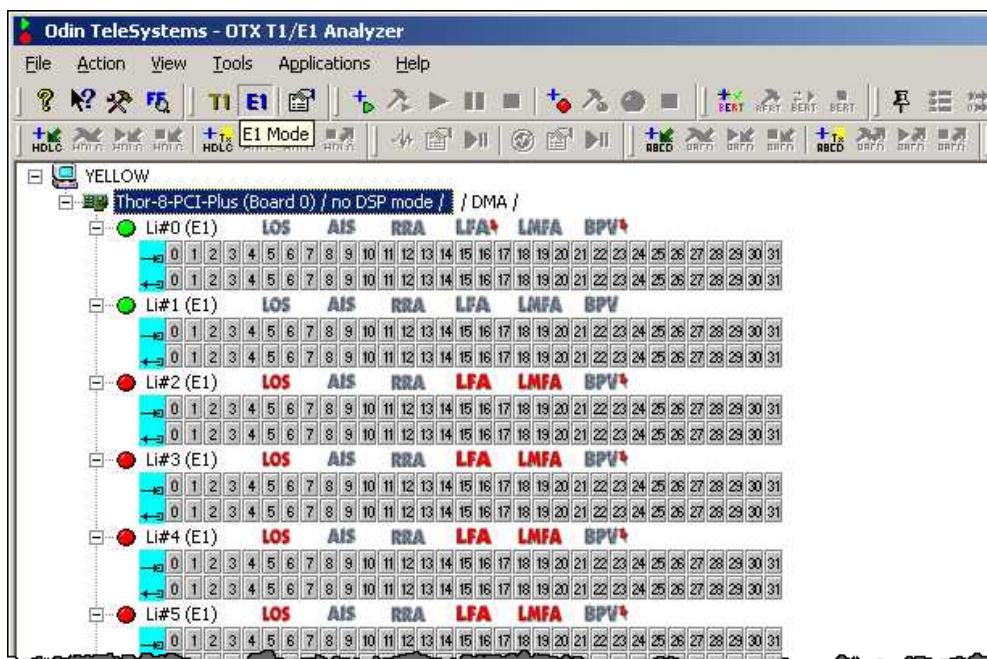

Figure 21 Select E1 Mode.
3. In Figure 21 the “Thor-8-PCI-Plus (Board 0)” label is high-lighted (filled blue). This means that the active scope is at the Board level. To switch all of the Li’s to E1 mode click the “E1” button on the toolbar.